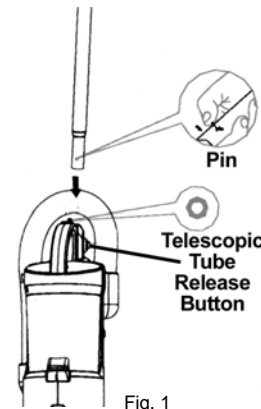

Fig. 1
- Insert the telescopic tube into the hole next to the dust cup handle. Make sure that the slot in the handle fits correctly into the opening. (Fig. 1)
- Press the telescopic tube release button to remove the telescopic tube. ( Fig. 1 page 4)